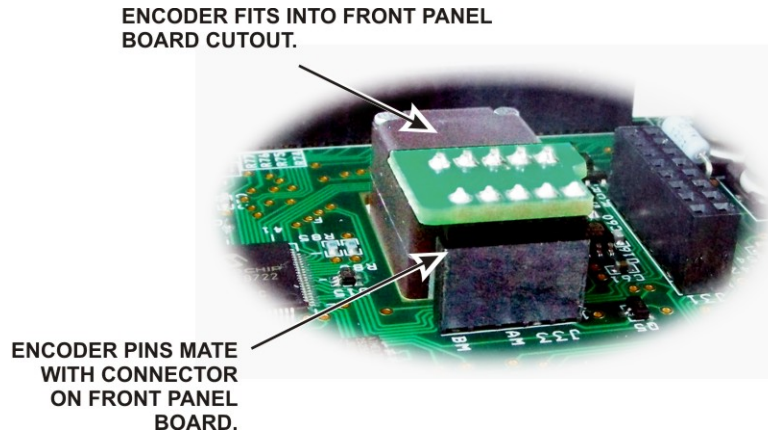

Figure 42. Mounting VFO Encoders.
□ Place the VFO A encoder in the opening near the center of the front panel board so the shaft protrudes through the opening under the LCD. Be careful to avoid dropping the lock washer into to the space between the front panel board and the front panel. Normally, the lock washer hangs on the threads while you put the encoder in place. Optionally, you can hold the encoder with the shaft upright and place the front-panel assembly over it until the shaft is through the hole. Orient the encoder so the pins mate with connector J33 on the front panel board as shown in Figure 42.